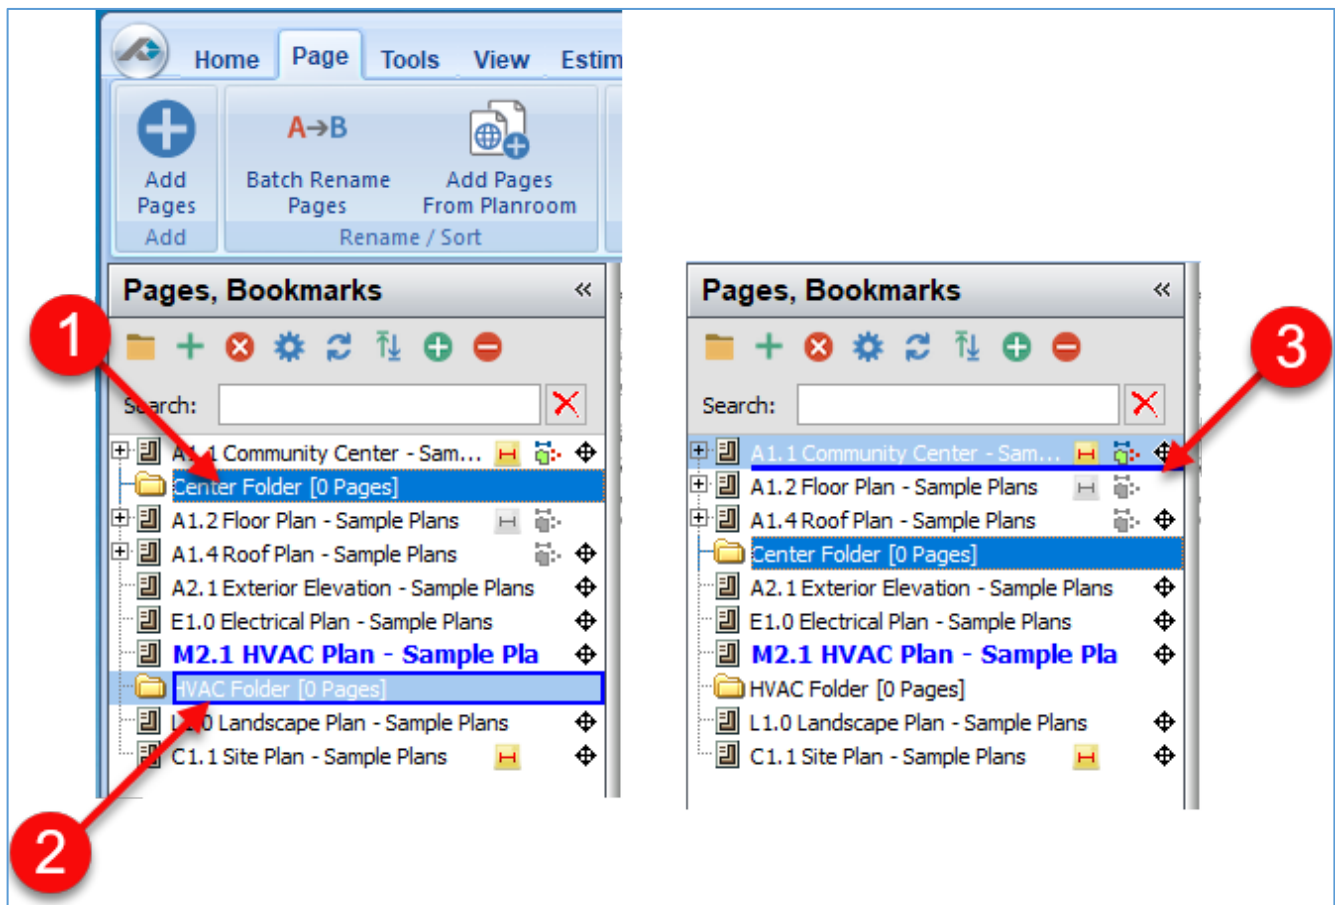

Figure 8-A
4. An alternate way of adjusting the page order is to click on the page reorder button to open the **Adjust Pages Order** window (Fig. 8-B).